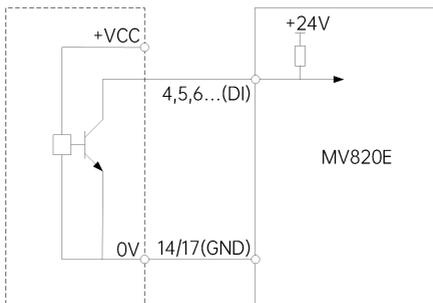

Fig. 4-17 Wiring diagram with the external controller being NPN
- ② When the external controller is the NPN common emitter output, the wiring is shown in Fig. 4-17.